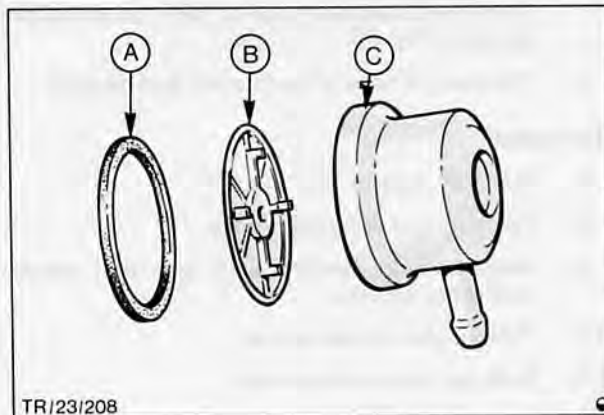

Fig. 68. Fuel pump cover removed for cleaning
5. Reassemble pump filter and seal to pump cover and refit assembly to pump, Fig. 68.